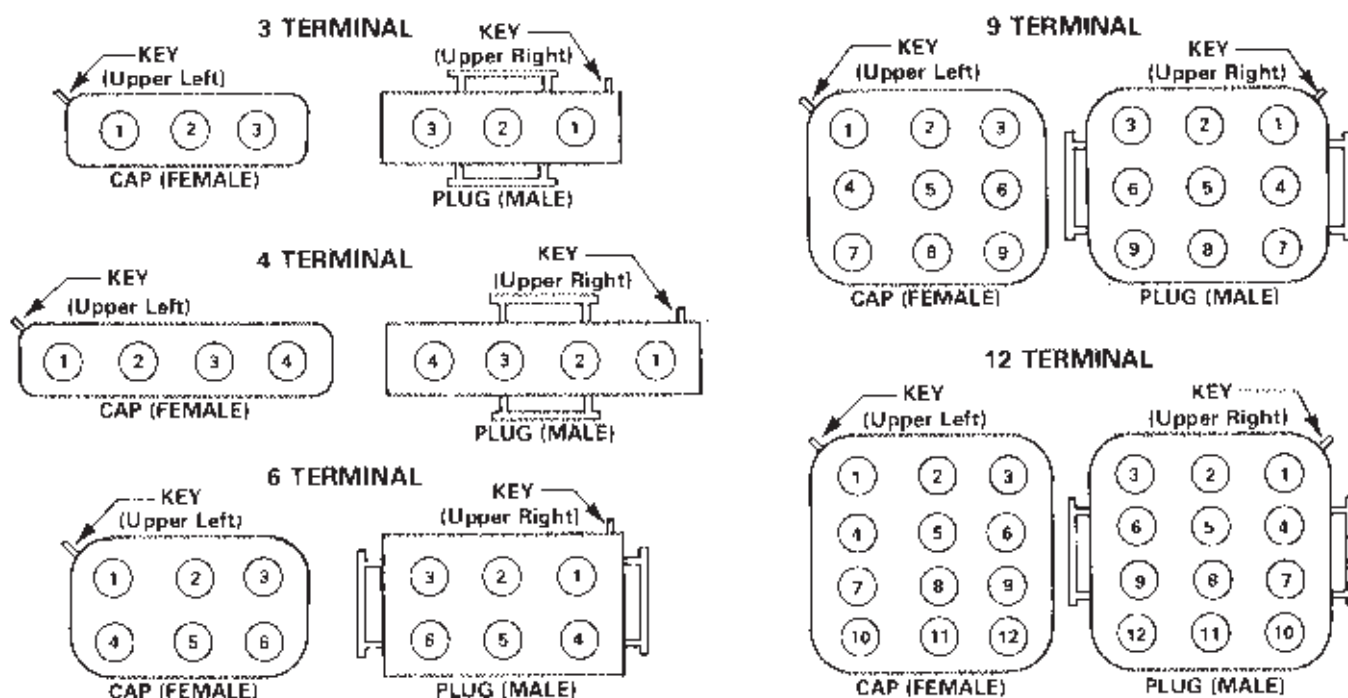

FIGURE 23
- 3 Terminal numbers on jack plugs are located by a ridge on the corner of the plug called the "Key." Refer to Figure 23 for proper numbering sequence.